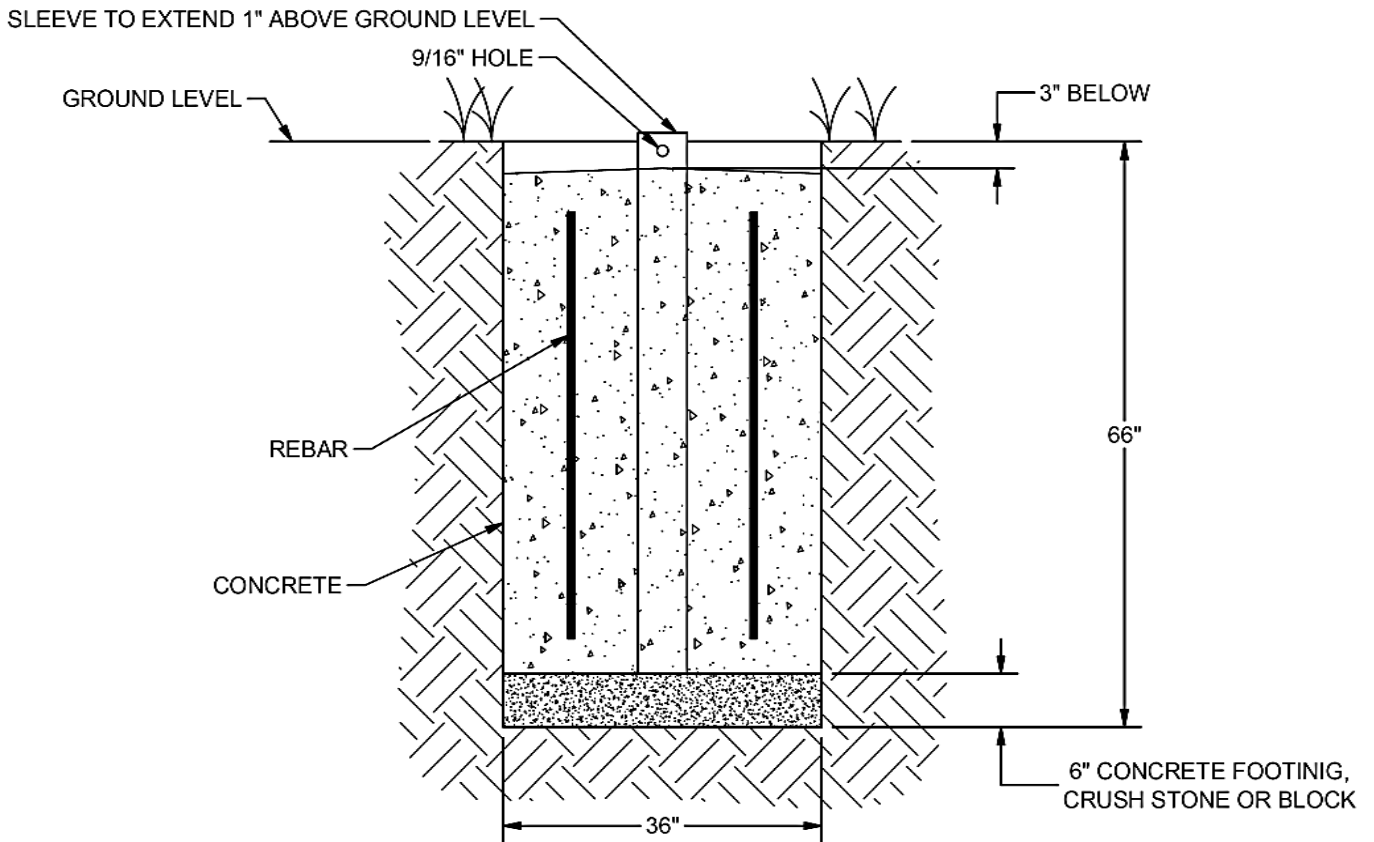

FIGURE: 8
1. Place the ground sleeve into the footing and fully support it in a plumbed position (figure 8).